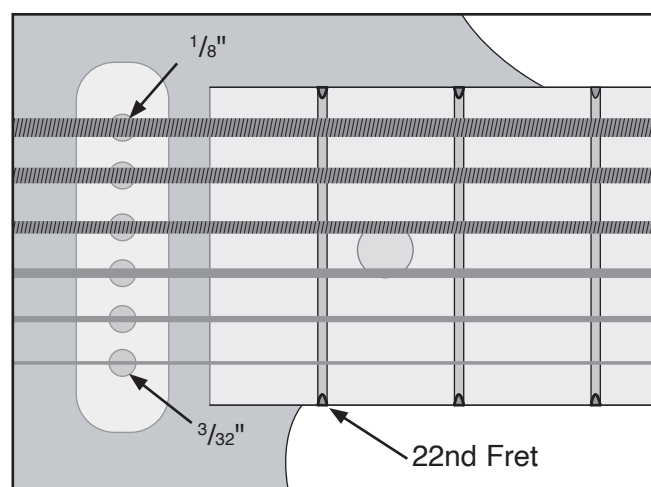

Figure 29. String heights over pickup.
1. Measure height of 1st and 6th strings at pickup while strings are "fretted" at 22nd fret (see **Figure 29**).